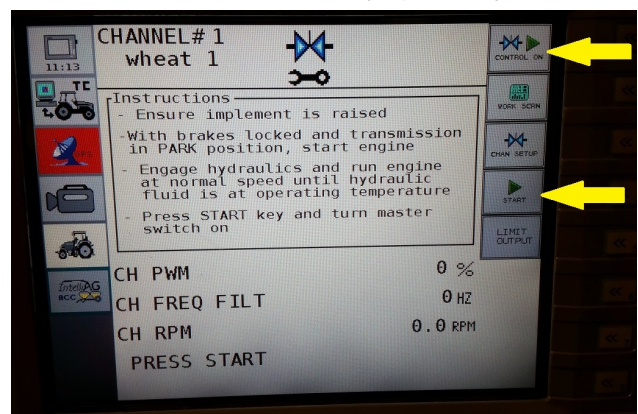

Figure 25
Step 6. Press **Start** icon. (Figure 25)
Step 7. Turn **Control Channel** on. (Figure 25)